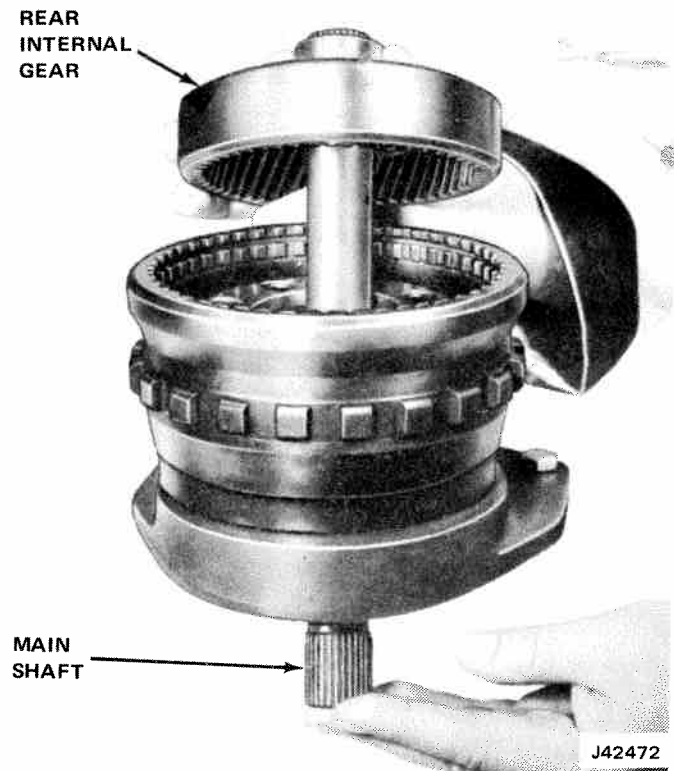

Fig. 7-42 Removing Rear Internal Gear and Main Shaft From Output Carrier Assembly
(7) Remove plastic or metal thrust washer, located between reaction carrier and output carrier.
(8) Turn assembly over.
(9) Remove snap ring which fastens output shaft to output carrier.
(10) Withdraw shaft from carrier.
(11) Remove output shaft-to-rear internal gear thrust bearing and two races from rear internal gear and main shaft.
(12) Remove rear internal gear and main shaft from output carrier assembly (fig. 7-42).
(13) Remove rear internal gear to sun gear thrust bearing and two races from main shaft.
(14) If necessary, remove rear internal gear-to-main shaft snap ring to remove gear from shaft, as shown in fig. 7-42.